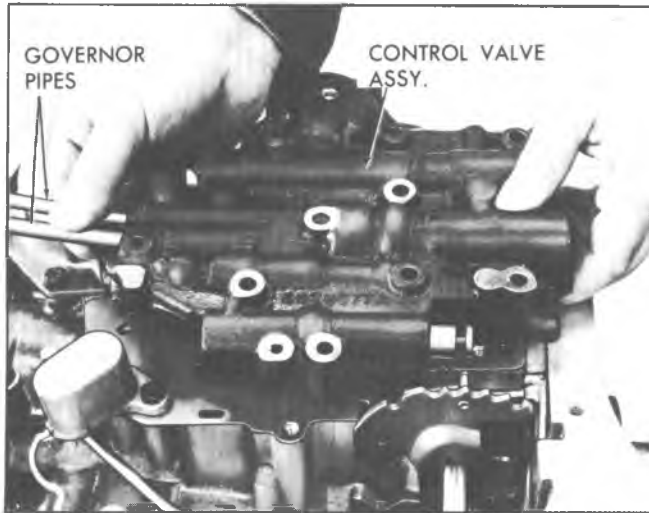

Fig. 7A-10C--Removing Control Valve Assembly and Governor Pipes from Case
2. Remove control valve assembly and governor pipes (Fig. 7A-10C).